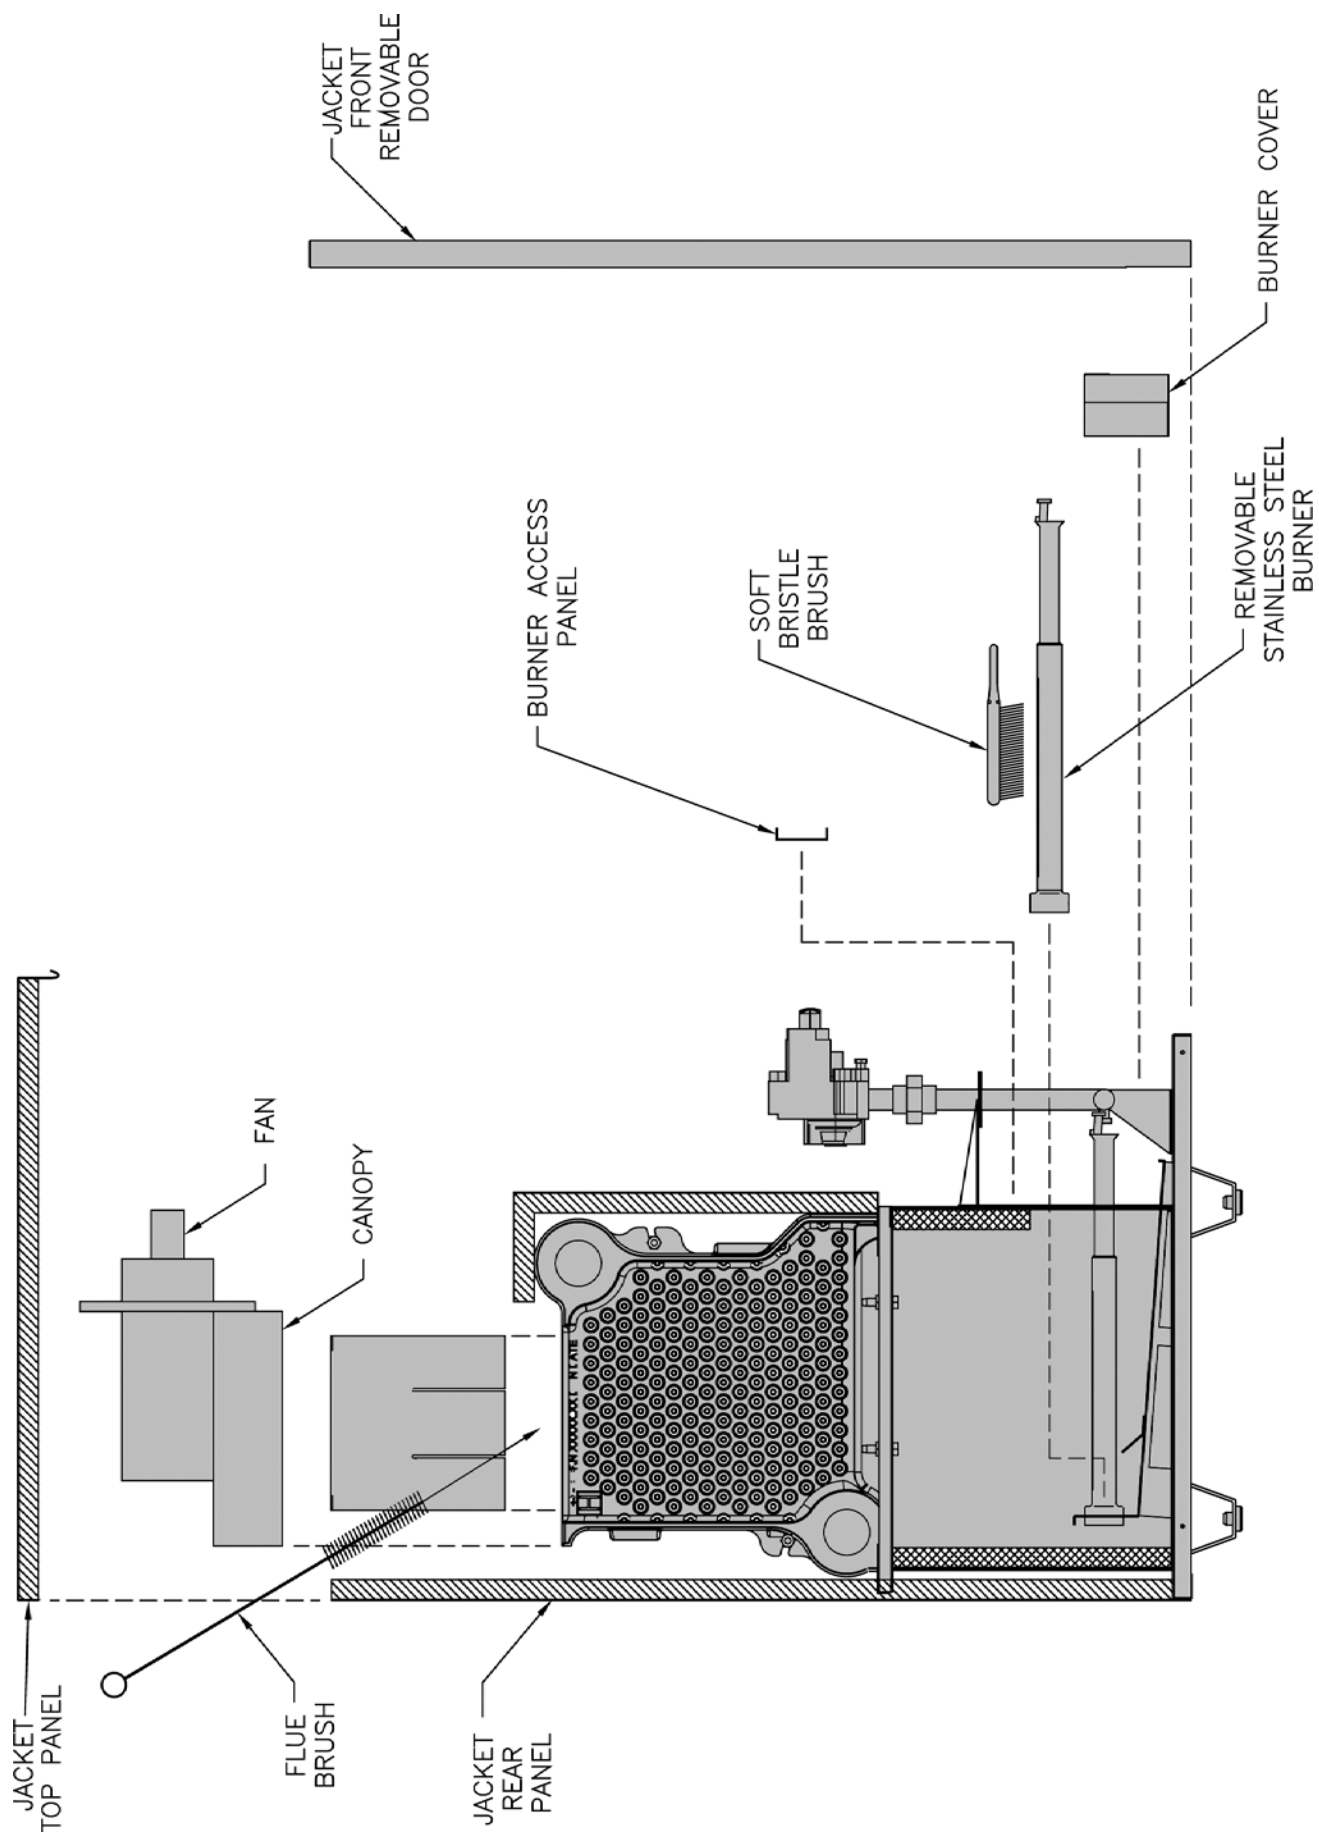

Figure 30: Flue and Burner Cleanout, 1" Burner
1. Remove Main Burners. See Figure 30.
- a. Loosen the (4) screws from Canopy.
8. Inspect flue passages. Clean with flue brush. See Figure 30.
2. Clean main burners. Brush top of burners with soft bristle brush. See Figure 30. Vacuum to remove any dirt and lint.
- b. Main burners must be properly secured in burner tray slot at rear of firebox and over gas orifice. See Figure 30.